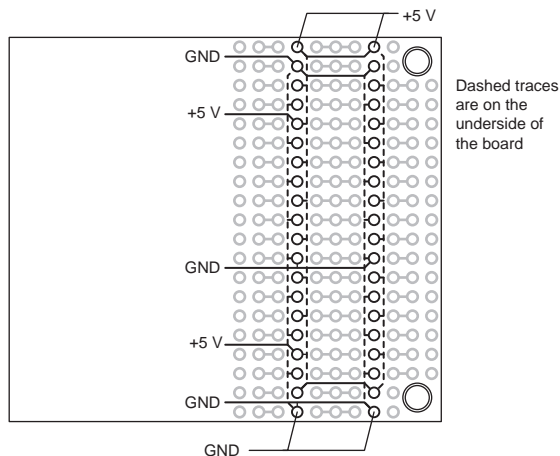

Figure D-3. Prototyping Board +5 V and GND Connections
- Power rails bring +5 V and GND to the array of pads (see Figure D-3).